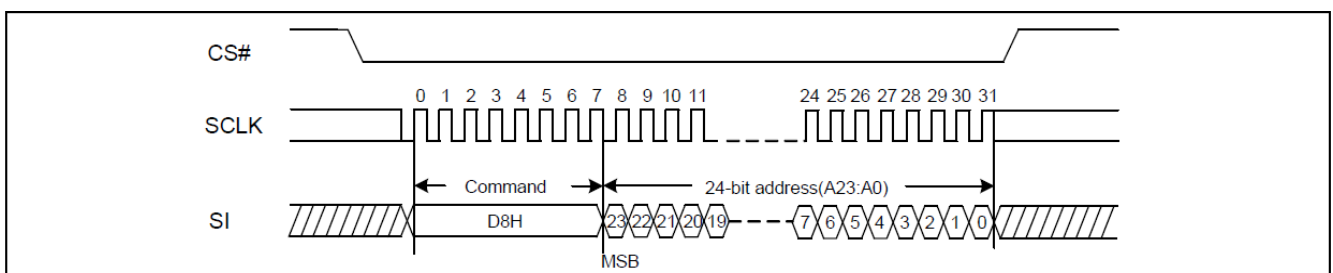

Figure9. Block Erase Sequence Diagram
The Block Erase command sequence: CS# goes low send Block Erase command 3-byte address on SI CS# goes high. The command sequence is shown in Figure9. CS# must be driven high after the eighth bit of the last address byte has been latched in; otherwise the Block Erase (BE) command is not executed. As soon as CS# is driven high, the self-timed Block Erase cycle (whose duration is  $t_{BE}$ ) is initiated. While the Block Erase cycle is in progress, the Status Register may be read to check the value of the Write In Progress (WIP) bit. The Write In Progress (WIP) bit is 1 during the self-timed Block Erase cycle, and is 0 when it is completed. Write Enable Latch (WEL) bit is reset to 0 at the end of the Block Erase cycle. Block Erase (BE) commands applied to a block which is protected by the Block Protect (BP2, BP1, BP0) bits (see Table1) is not executed.